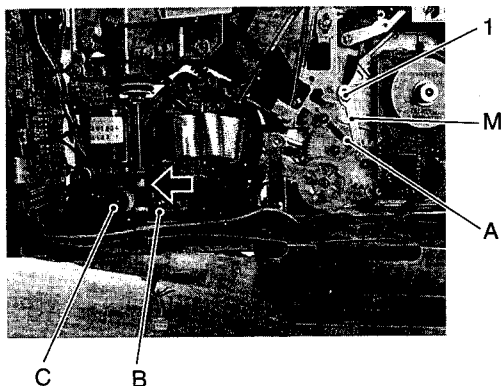

Fig. 2-6-12
1. Remove spring A and screw 1 (see Fig. 2-6-12).